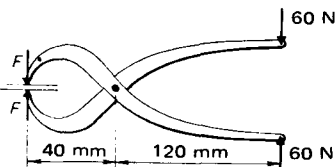

Fig. 2.38
2. Fig. 2.38 shows a pair of pincers. Find the gripping forces on the work.